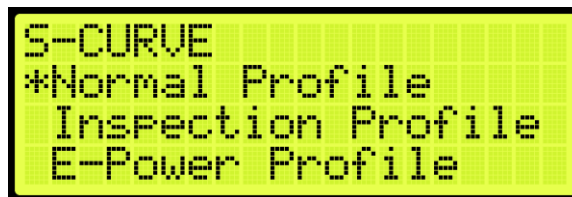

Figure 127: S-CURVE Menu – Normal Profile
- From the S-CURVE menu, scroll and select the profile that is being adjusted (See Figure 127).
2. From the S-CURVE menu, scroll and select the profile that is being adjusted (See Figure 127).